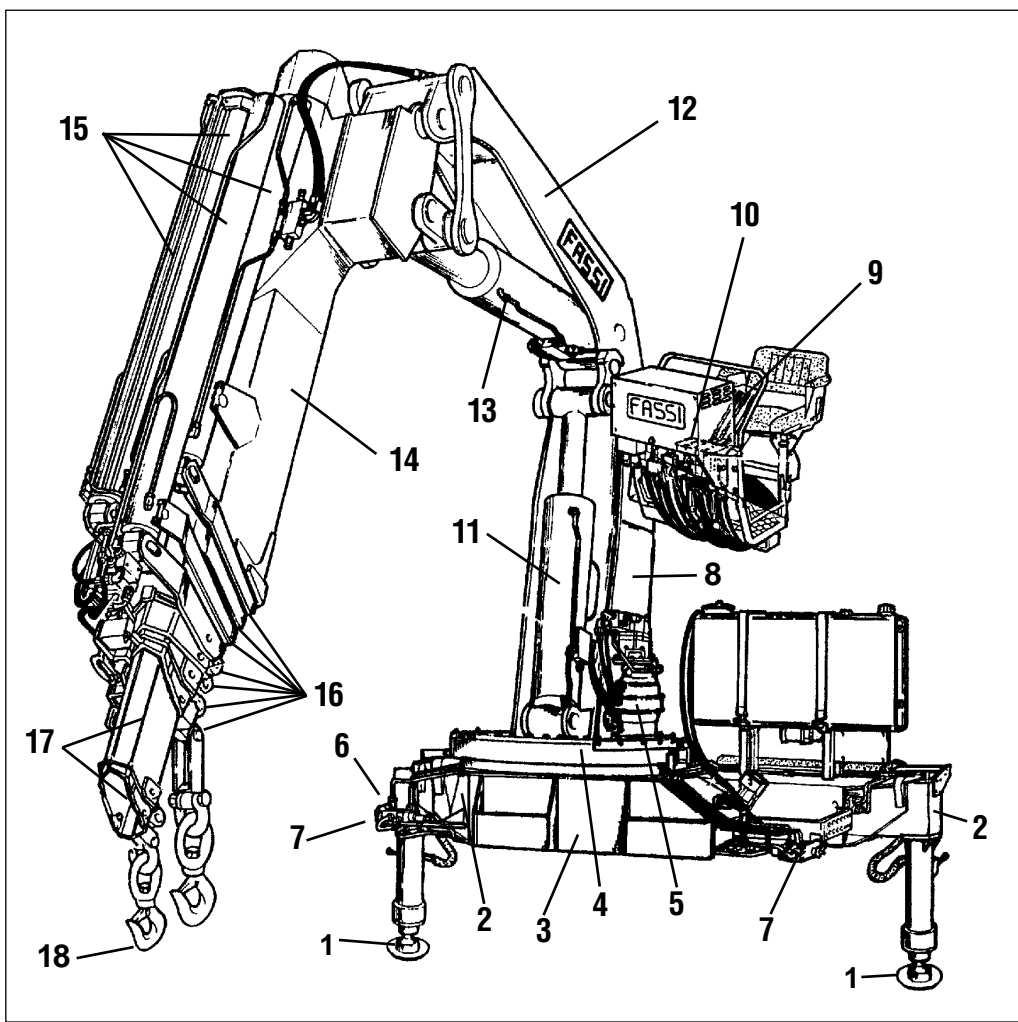

fig. 6
**Version with ground controls for outriggers and top seat controls for crane (fig. 6)**